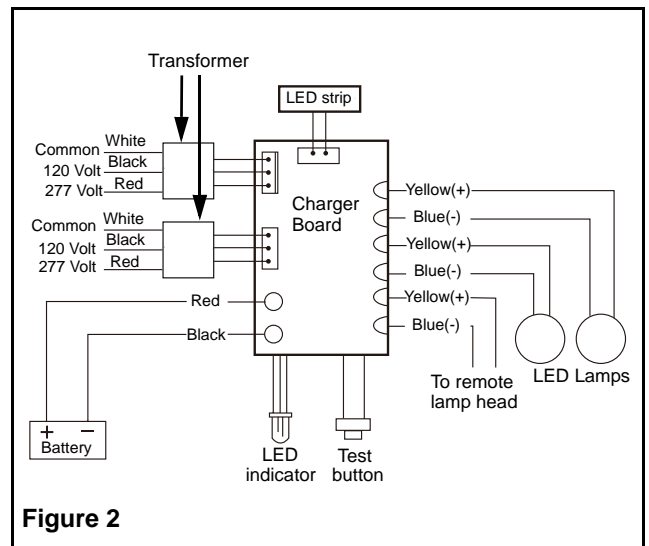

Figure 2
- e. The system can accept input voltages of 120 VAC or 277 VAC. Therefore, connect the black (120 VAC) or red (277 VAC) and white (common) leads to the building utility. Connect the green ground wire to the service ground (see fig. 2).